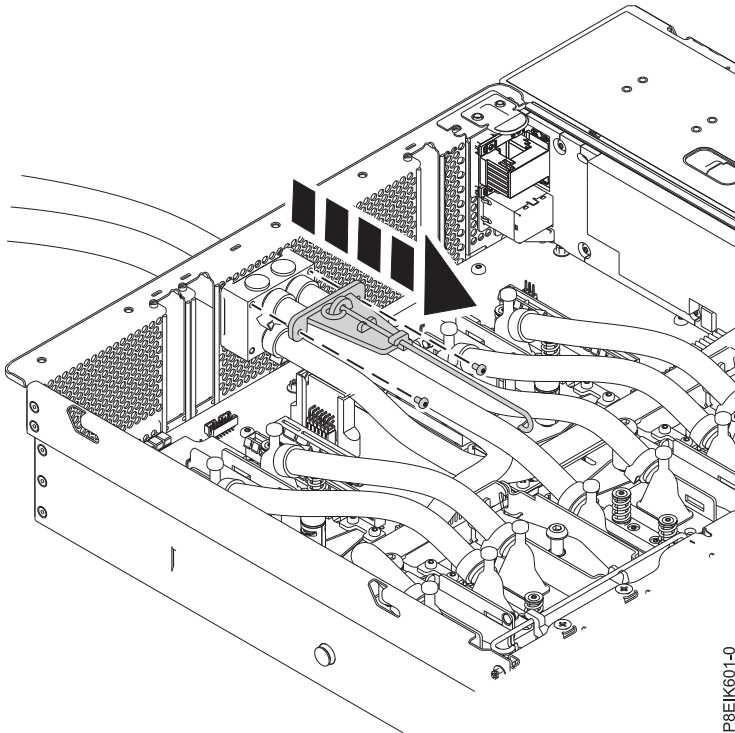

Figure 2. Removing the rear service clip
3. Remove the two screws that secure the rear cold plate service clip and remove the clip as shown in Figure 2 on page 4.